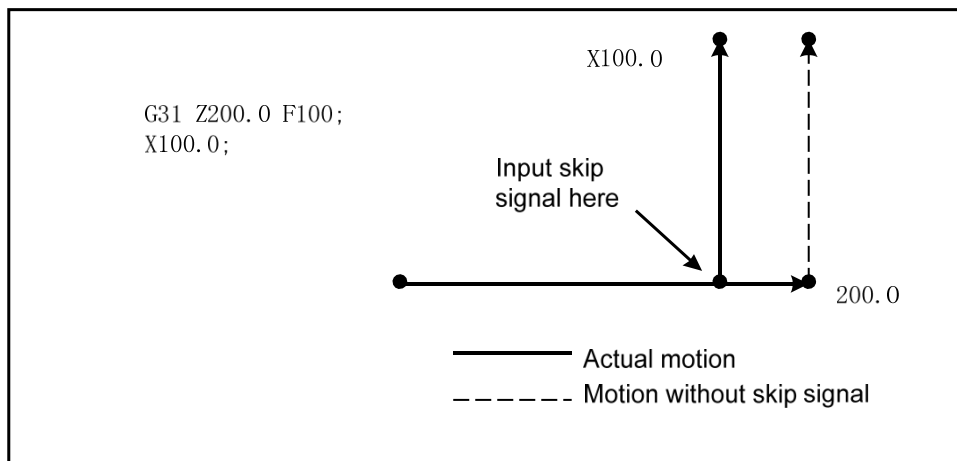

Fig. 3-14
2. The next block of G31 is the absolute coordinate programming of one axis as Fig. 3-14: